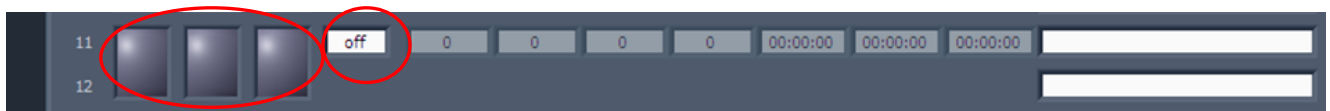

Figure 11.2. A de-selected lane-pair. The programming mode and “Ref Lane” field must be OFF.
- Users should double-check that the unused lanes are de-selected in the size selection protocol (**Figure 11.2**)